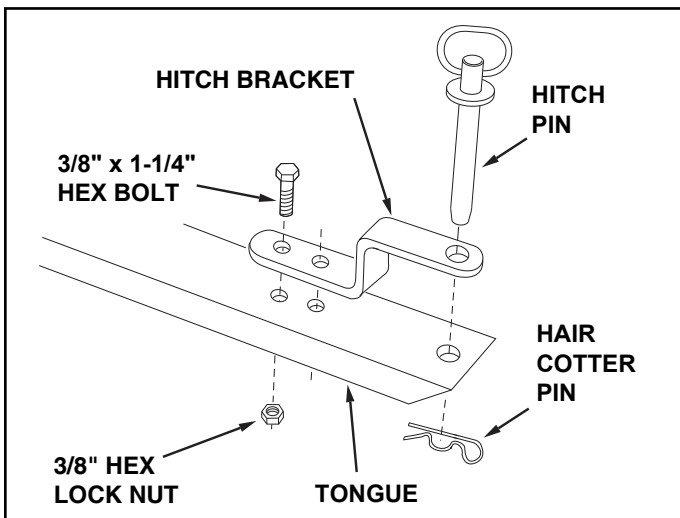

FIGURE 9
15. Assemble the hitch bracket to the front tongue using two 3/8" x 1-1/4" hex bolts and 3/8" nylock nuts. **Tighten.** See figure 9.
16. Secure the hitch pin to the hitch bracket and tongue with the hair cotter pin. See figure 9.